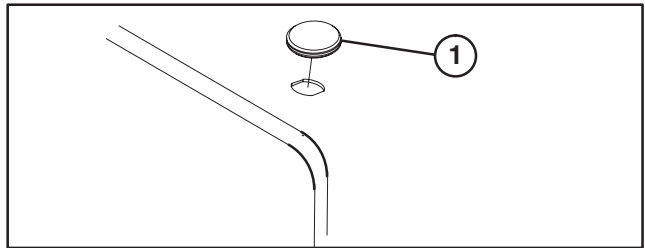

Figure 2
MOUNT HOOD LATCH (Fig. 2 & 3)
1. Remove plug from hole in left front corner of hood (Fig. 2).
INSTALL CUTTING UNITS (Fig. 2–9)